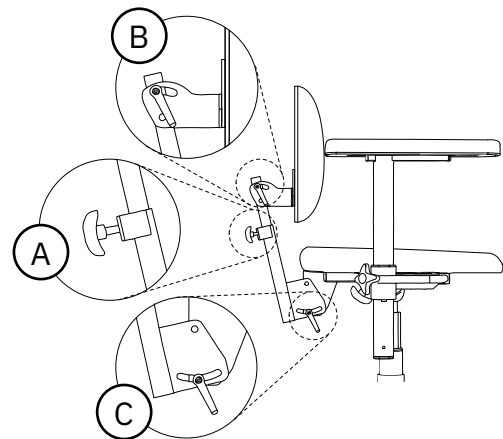

Figure 5.41. Standard backrest mechanism.
Standard can be adjusted in height (A), angle of back rest (B) and angle of back rest mechanism (C), see Figure 5.41. The back recliner can be adjusted in the range of 15° forward to 30° backwards.